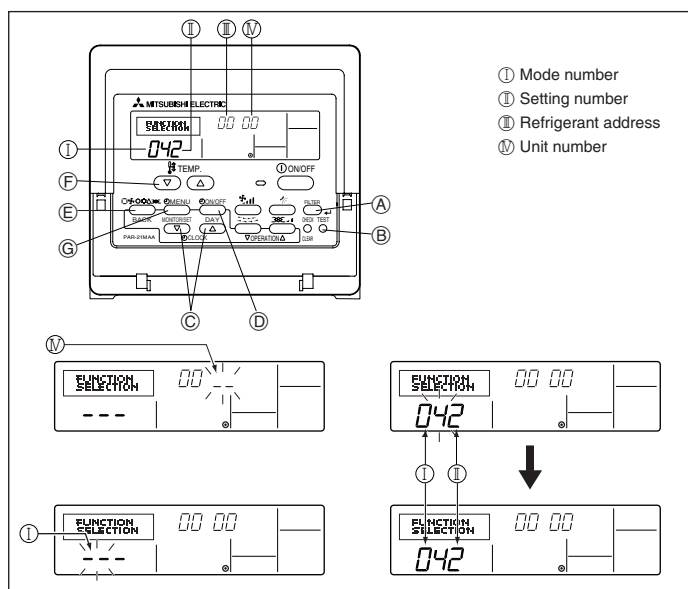

Fig. 6-8
1) For wired remote controller (Fig. 6-8)